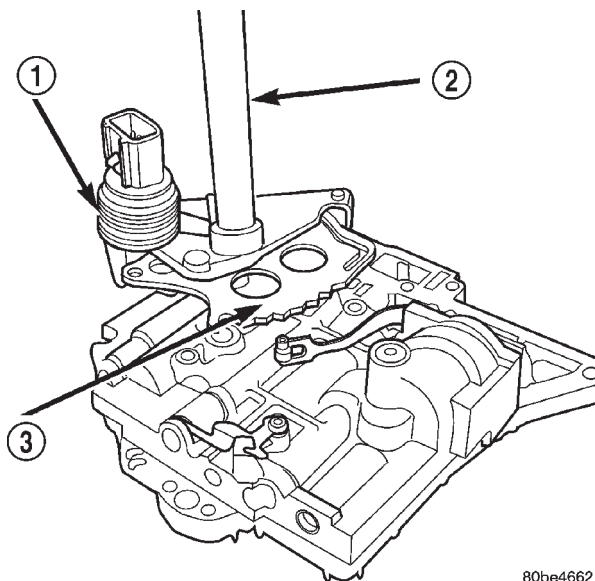

Fig. 121 Manual Shaft/Rooster Comb and Transmission Range Sensor
- (3) Remove Transmission Range Sensor (TRS) and manual shaft (Fig. 121).